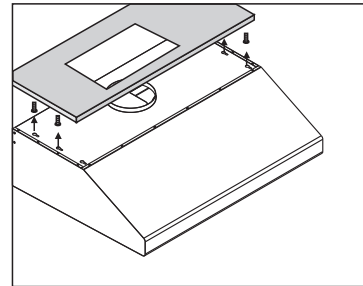

Fig.11
2. A FLUSH BOTTOM MUST CUT AN AT LEAST 6"X6" BY SQUARE TO FIT FOR A DUCTING VENTILATION (REF FIG.11)
- b. The large part of the keyhole mounting slots on the hood fit onto the hood mounting screws projecting from the bottom of the cabinet. (Fig.11)